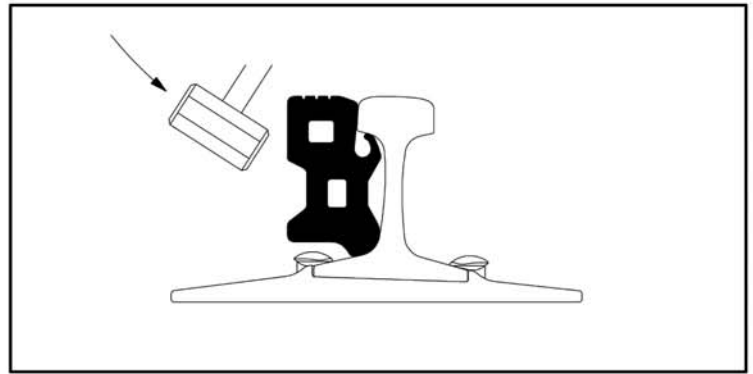

Figure 1
- 1** Place and seat Railseal into web of rail with a sledge hammer (Fig. 1)